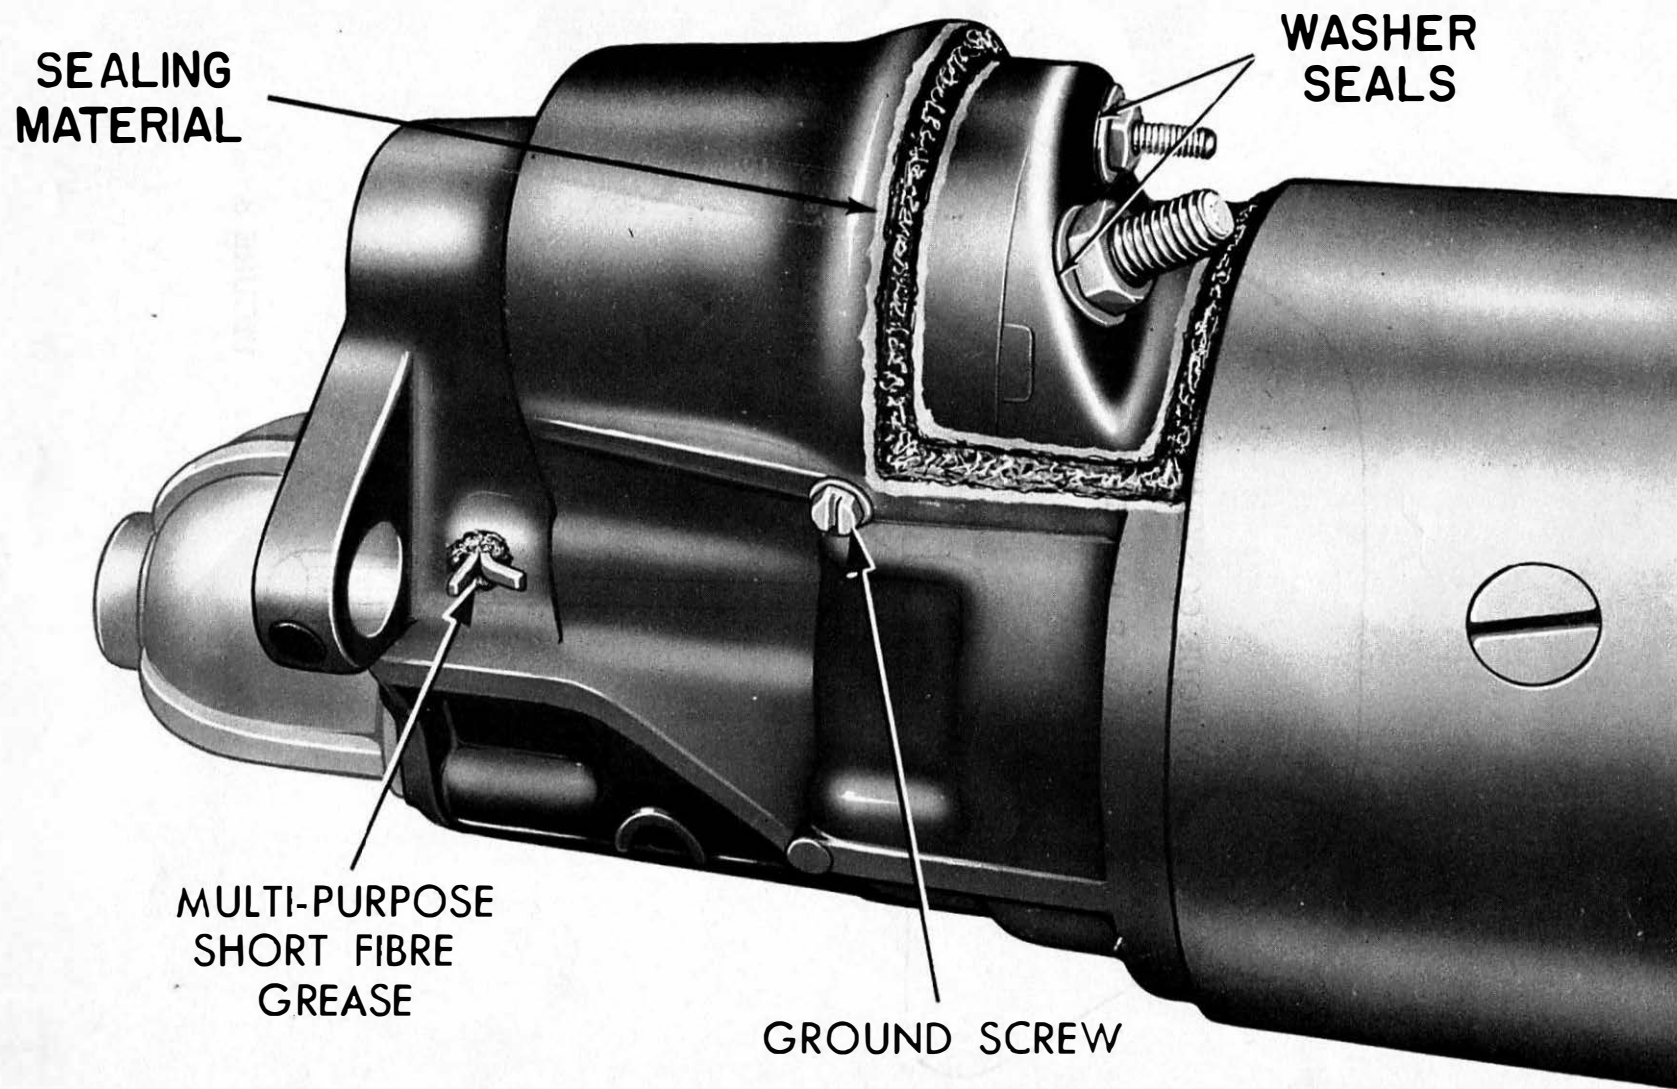

FIG. 7
17. Apply the starter brush plate sealer under the shoulder of the 8-32 x 1/2 inch ground screw and install the screw into the hole which was drilled with the No. 26 drill. Tighten the screw to 25-35 inch pounds torque. This screw provides a more positive ground for the hold-in coil. Refer to Figure 7.